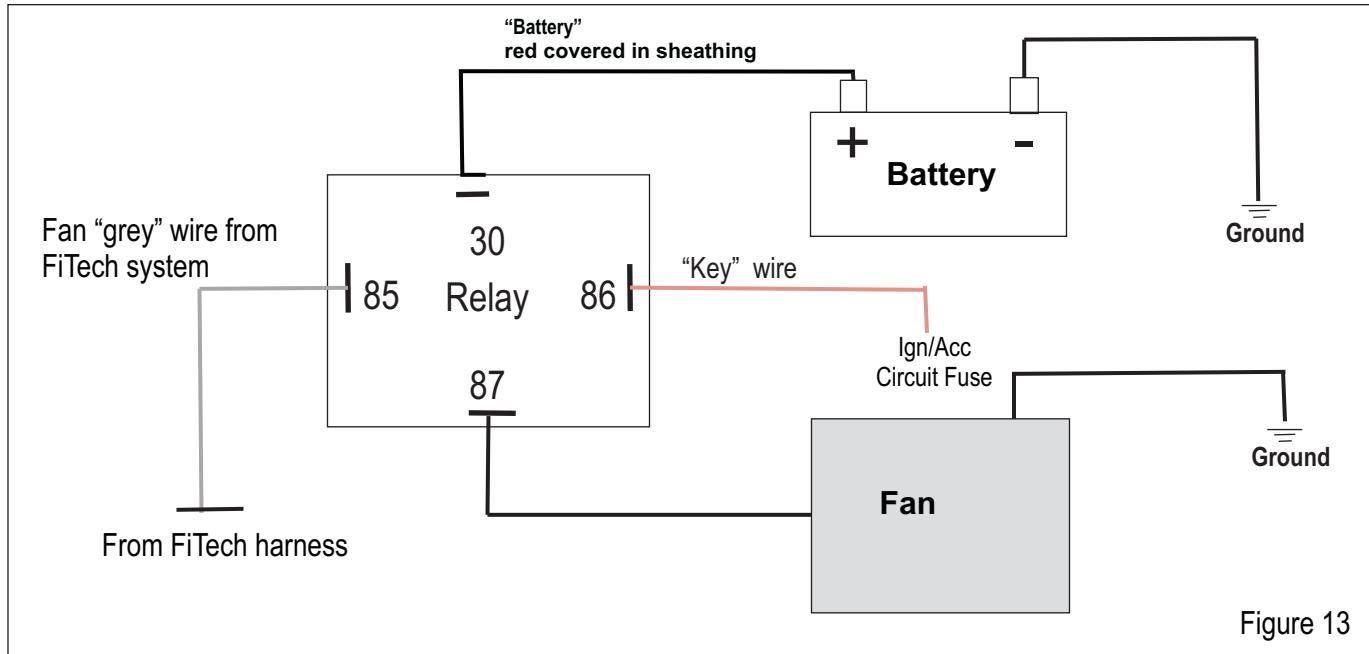

Figure 13
The fan wire is a ground side trigger and must go to a relay to trigger the fans on. Traditionally replaces the thermal switch from a fan controller. The trigger circuit (86) connects to the 12 v "key" (peach wire). The "grey" wire from the EFI system connects to the relay (85). The red wire covered in sheathing labeled Battery from the FiTech harness goes from the 30 relay to the positive terminal of the battery. Lastly, the 87 on the relay goes to the fan. It is crucial that the battery and the fan are grounded. See figure 13.